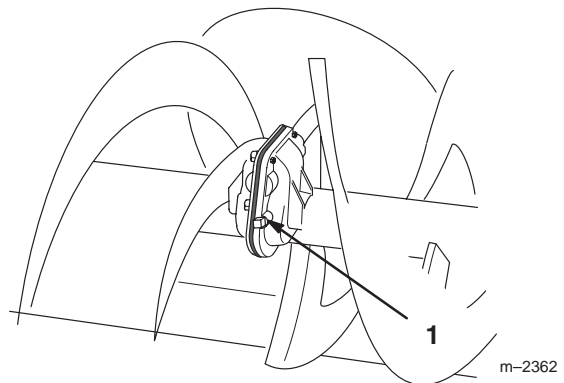

Figure 34
2. Clean area around plug with a rag and remove plug (Fig. 34).
3. Add SAE 90 gear oil until level with bottom of hole in housing (Fig. 34).